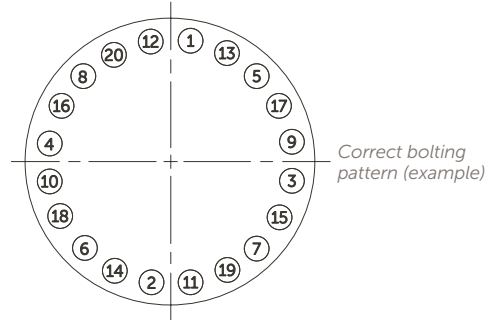

Figure 34.
5. Follow the bolting pattern as shown in Figure 34.